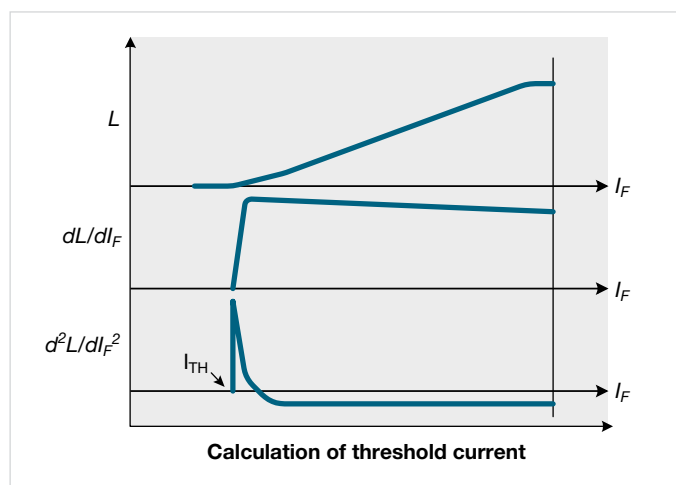

Figure 4: Graphical Calculation of Threshold Current.
The threshold current is the current at which the LD starts lasing. One technique for threshold determination is the second derivative technique. The threshold for this method is defined as the first maxima of the second derivative of the light output and is a calculation based on the light measurement (L). This is highlighted in **Figure 4**.